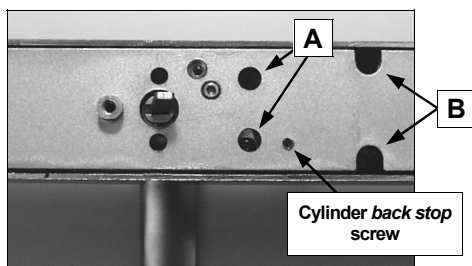

Fig. 1: Install Cylinder if not already installed at the factory
1. **Install Cylinder if not already installed at the factory.** Screws A & B (see Fig. 1) are correctly set at factory. If it is difficult to screw in the cylinder, loosen the two screws near the actuator (A) one turn. If you find the cylinder is still difficult to screw in, then loosen the other screws (B) one turn. **Do not loosen the screws all the way or it may be difficult to replace them properly!**